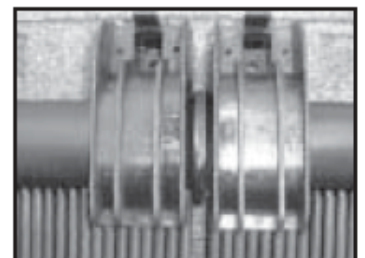

Fig. 10
1. The center collector of a bank may be locked in place by locating the Top Gator Clamp on that collector adjacent to the left and right of one of the manifold ribs (Fig. 10). These Top Gator Clamps should be attached using (2) #14 wood screws as opposed to (1) 1/4" lag bolt as they will be attached to the roof decking only.